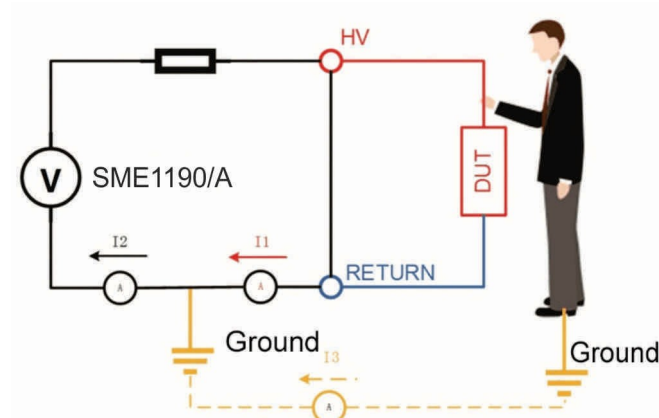

Figure 4-5
- a) When the electric shock protection is set to ON, when the operator is in contact with the high voltage output terminals, as shown in Figure 4-5, the current meter measures different current values respectively, then the current flowing through the body $i_3 = i_2 - i_1$, when i_3 exceeds the limit, immediately cut off the high voltage output to protect the safety of the operator.